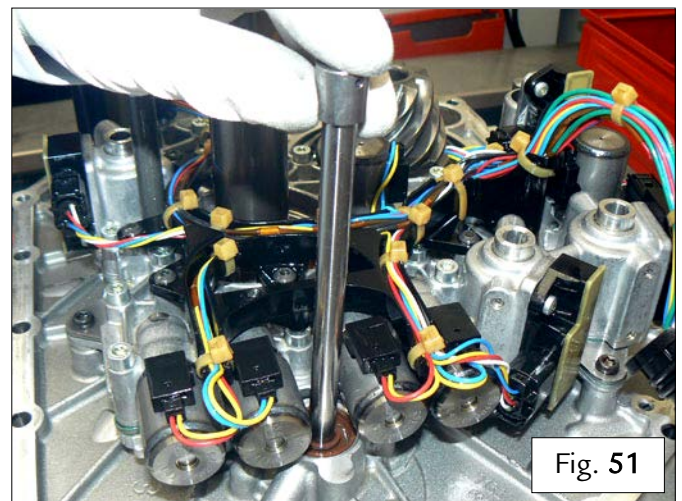

Fig. 51
- Lubricate the oil pump spindle and install vertically in the relative seat – Fig. 51.
- Turn the oil pump spindle to engage correctly in its seat: ensure that the spindle is inserted fully – Fig. 51.